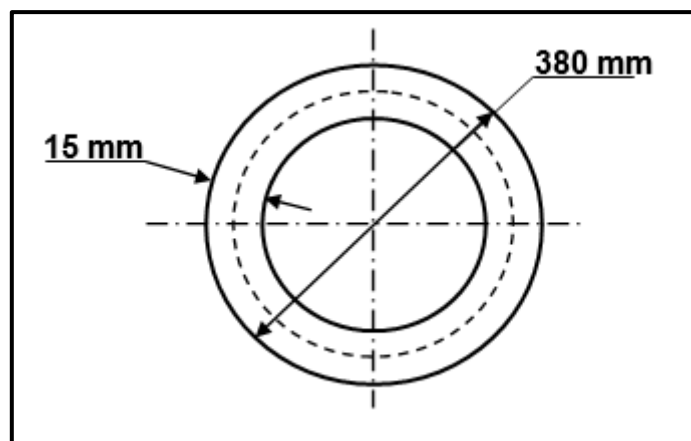

FIGURE 5.2
5.2 FIGURE 5.2 below shows a brass ring that must be manufactured using a 15 x 15 mm square bar. The ring has an outside diameter of 380 mm.